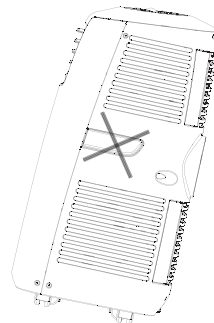

FIG. 1
- Always operate the unit in an upright position and place it on a flat, level surface at least 14" (36 cm) away from any other objects (fig. 1 & 4).